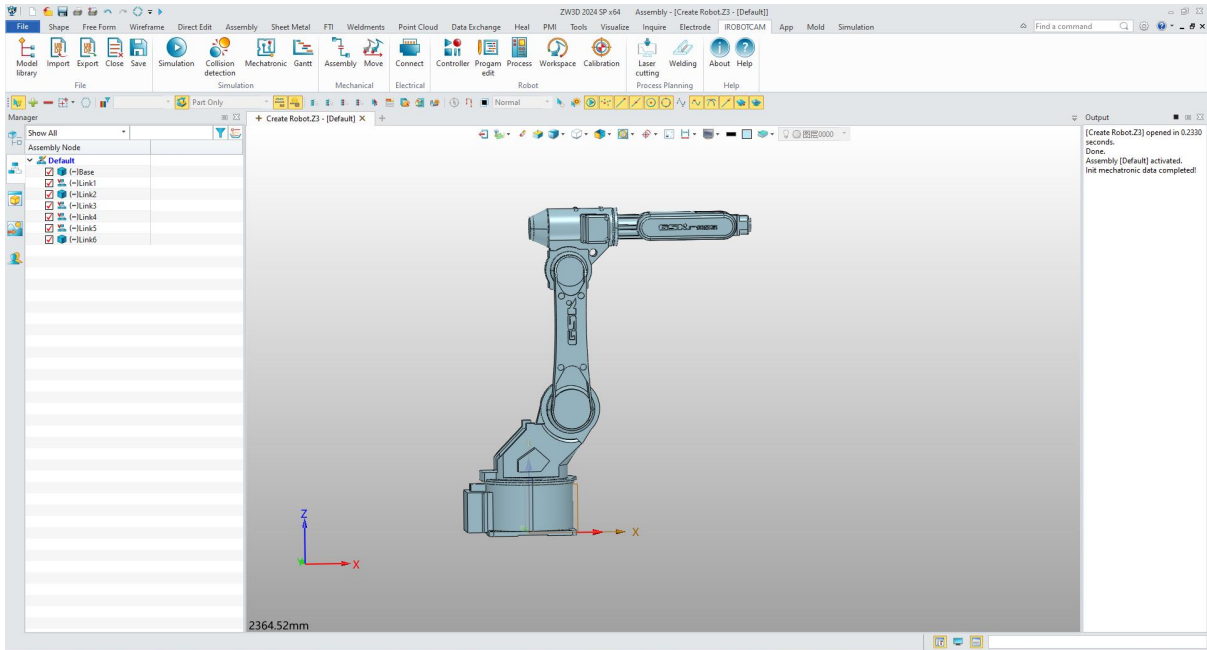

Figure 8-4: Component Details
- View the details of interface components. (Figure 8-4)